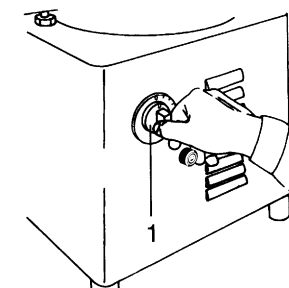

Fig. 7
- Select the peeling time with the timer 1, Fig. 7 (variable time from 1 to 4 min.)